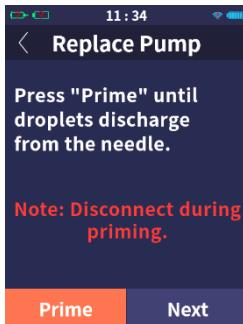

Figure 11.6
(5) Prime. Press or click "Prime" until droplets discharge from the needle, then click "Next" (as shown in Figure 11.6).